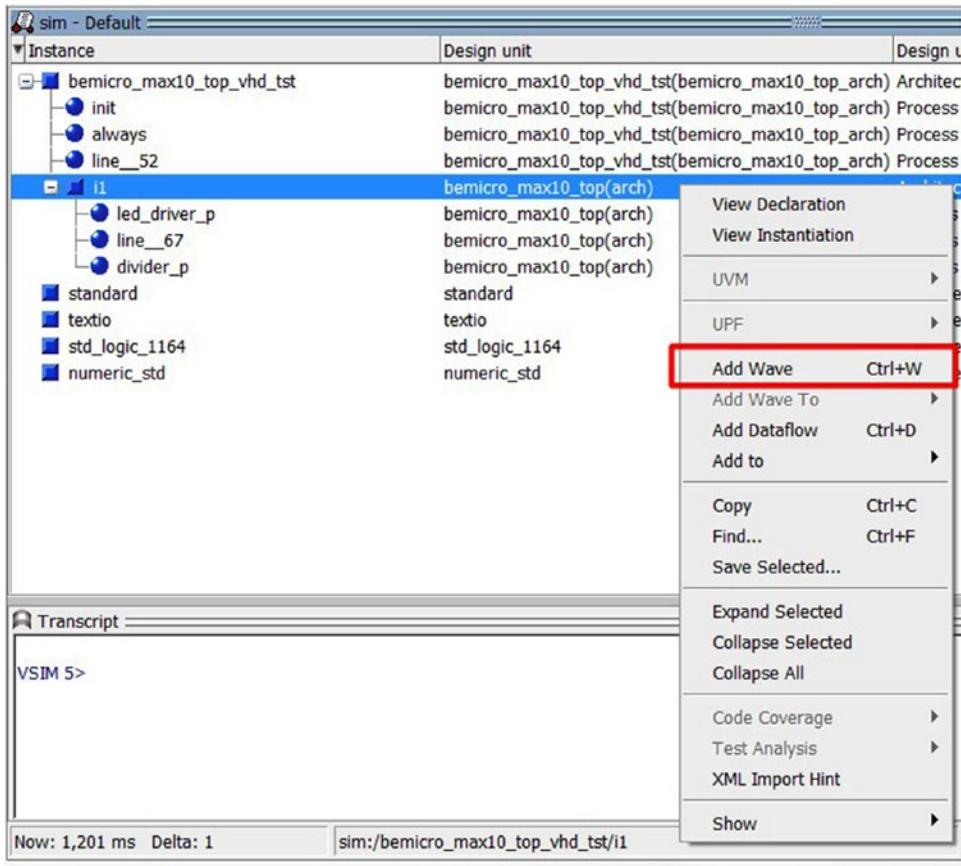
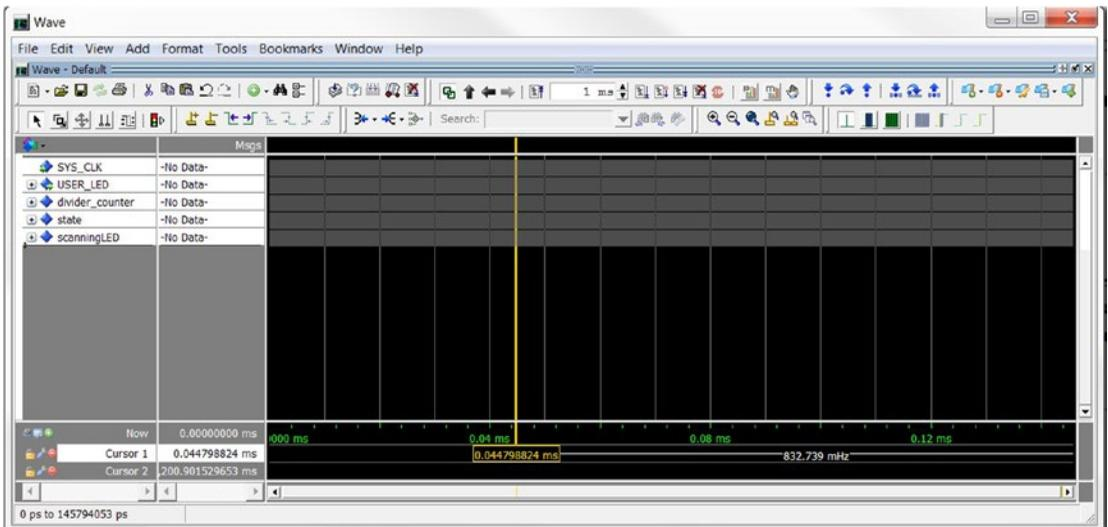

Figure 4-46. Add all the signals into a Wave display
Figure 4-47. Wave window
11. Right-click the Instance :i1 or Design unit: **bemicro_max10_top(arch)**, and click **Add Wave**. Figure 4-46 shows the location. It will pop up a Wave window like Figure 4-47. You can also trigger it by entering the following script in the Transcript box: